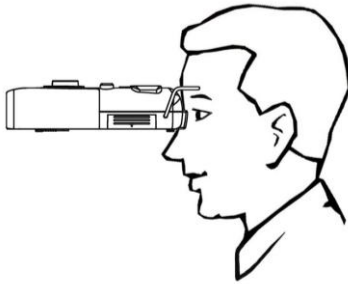

Figure 1
- 1) After loading the battery, LCD (3) will show the current value of the PD (device self-test completes).
- 2) Push both the PD Adjustment Slide (right)(6) and PD Adjustment Slide (left)(7) toward to the middle. At this moment, the value of right PD and left PD are 23 on the LCD(3); the center of the display shows the minimum value of the device: both PD 46. Then push the buttons (6)/(7) to the lateral, both right PD and left PD show the value of 41. In the middle of the screen it shows maximum value of the device: 82. In the process of sliding buttons (6)/(7), the value index in LCD(3) will change simultaneously.
- 3) Turn the Focal Distance Adjustment Knob (8) to a certain position, usually set to infinity (∞).
- 4) For turning into sleep mode, LCD(3) should be closed, and press the switch (4) again.
- 5) Patients should hold the PD meter like carrying binoculars, and should be cautious of the forehead bracket(1) and nose support(2) as shown in Figure 1.